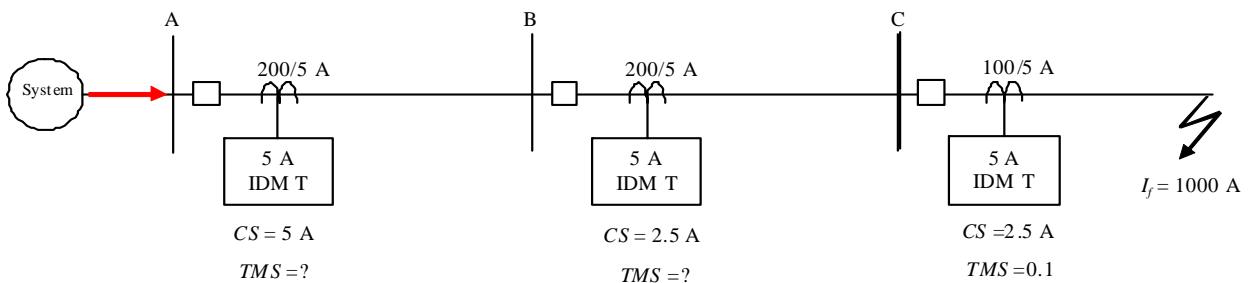

Fig. 3
- ◇ Another method of connecting an earth-fault relay is illustrated in Fig 3. The relay is connected to secondary of a CT whose primary is connected in neutral to earth connection.
Figure 3 shows a radial distribution system having identical IDMT overcurrent at A, B and C. For a time delay step ( $\Delta t$ ) of 0.5 s, calculate the time multiplier settings (TMS) at A and B.